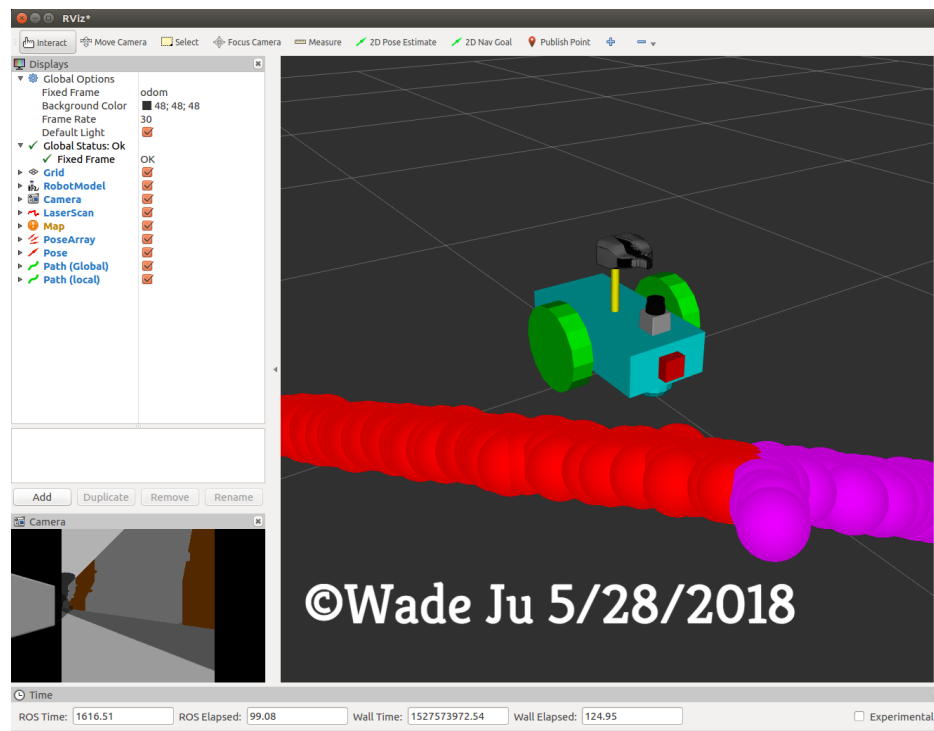

Fig. 1 Robot on RViz
URDF tutorial on the ROS wiki (5) illustrates how to create a robot from scratch. Objects and images of pole, grippers, and gripper fingers were obtained from the example and put in my robot as shown in Fig. 1.